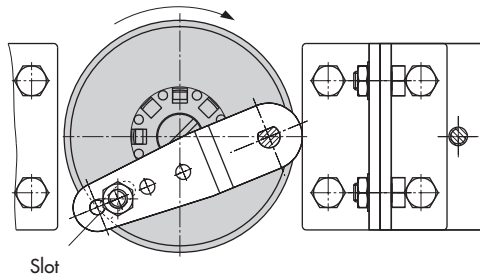

Fig. 9 · Attachment to rotary actuators
1. Place follower clamp (3) on the slotted actuator shaft or the adapter (5).
2. Place coupling wheel (4) with flat side facing the actuator on the follower clamp (3). Refer to Fig. 9 to align slot so that it matches the direction of rotation when the valve is in its closed position.
4. Screw the bottom pair of brackets (10.1) with the bends pointing either to the inside or to the outside (depending on the actuator size) to the actuator case. Position top pair of brackets (10) and screw tight.
5. Mount connecting plate (6) or pressure gauge bracket (7) with pressure gauges to the positioner, making sure both
6. Unscrew the standard follower pin (2) from the positioner's lever **M** (1). Use the metal follower pin (Ø5) included in the mounting kit and screw tight into the bore for pin position **90°**.
7. Place positioner on the top pair of brackets (10) and screw tight. Considering the actuator's direction of rotation, adjust lever (1) so that it engages in the slot of the coupling wheel (4) with its follower pin (Fig. 9). It must be guaranteed that the lever (1) is parallel to the long side of the positioner when the actuator is at half its angle of rotation.